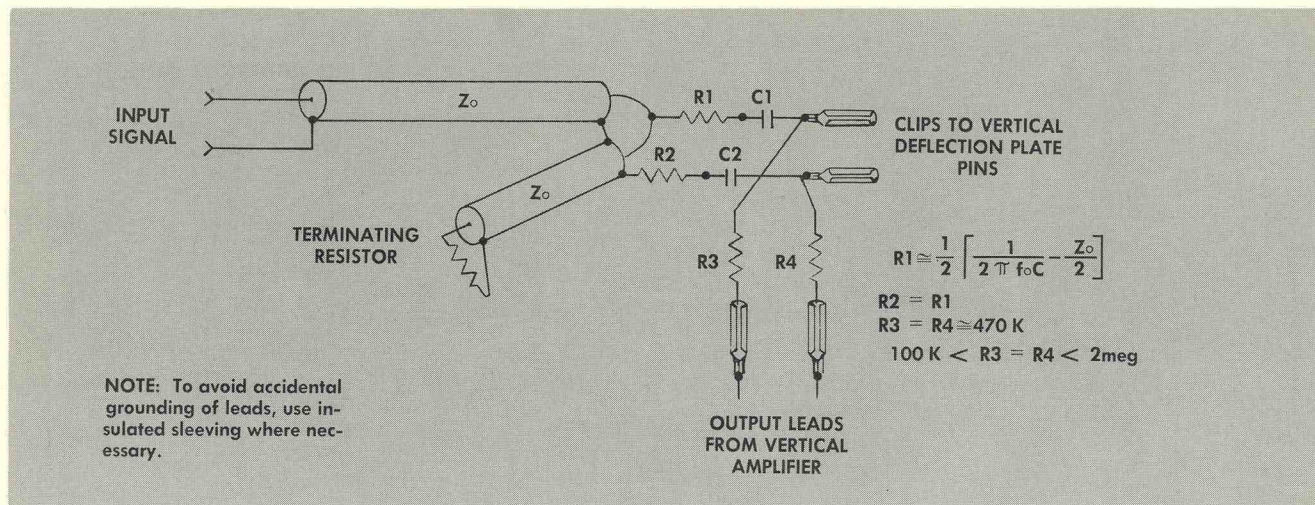

Fig. 3-8. Detailed method of ac-coupling the signal directly to the vertical deflection plates.
A typical circuit for ac-coupling directly to the vertical deflection plates is shown in Fig. 3-8. This circuit permits the internal vertical amplifier of the oscilloscope to be bypassed, but still allows the normal dc operating and positioning voltages to be applied to the deflection plates from the internal vertical amplifier. However, when using this circuit, you must use a high-quality external delay line
Only approximate values for two of the parts are given. The values of these and all other parts depend upon the crt, cable impedance, and lead lengths. Later on, some setups employing a 540-Series Oscilloscope are illustrated and described to show how optimum results were obtained by modifying the circuit shown in Fig. 3-8 to suit the specific application.
To find the resonant frequency (f_0) of the lead inductance and the deflection plate capacitance (C) for use in the equation shown in Fig. 3-8, use the method that follows. Turn off the oscilloscope power and disconnect the vertical amplifier output leads to the crt. Cut a wire loop which equals the total length of C1, C2, R1, R2, R3, R4. Substitute the wire loop for these components between the vertical deflection plate pins. Bring a grid-dip meter near the loop and measure the resonant frequency.
The value of R1 is found by solving the equation in Fig. 3-8. Make R2 the same value as R1.